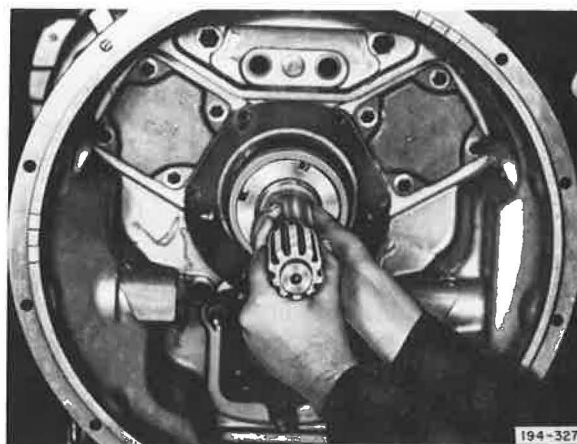

Figure 5-54. Installing Main Driving Pinion
21. Position the drive pinion assembly into place being careful not to damage spigot bearing. See Figure 5-54.